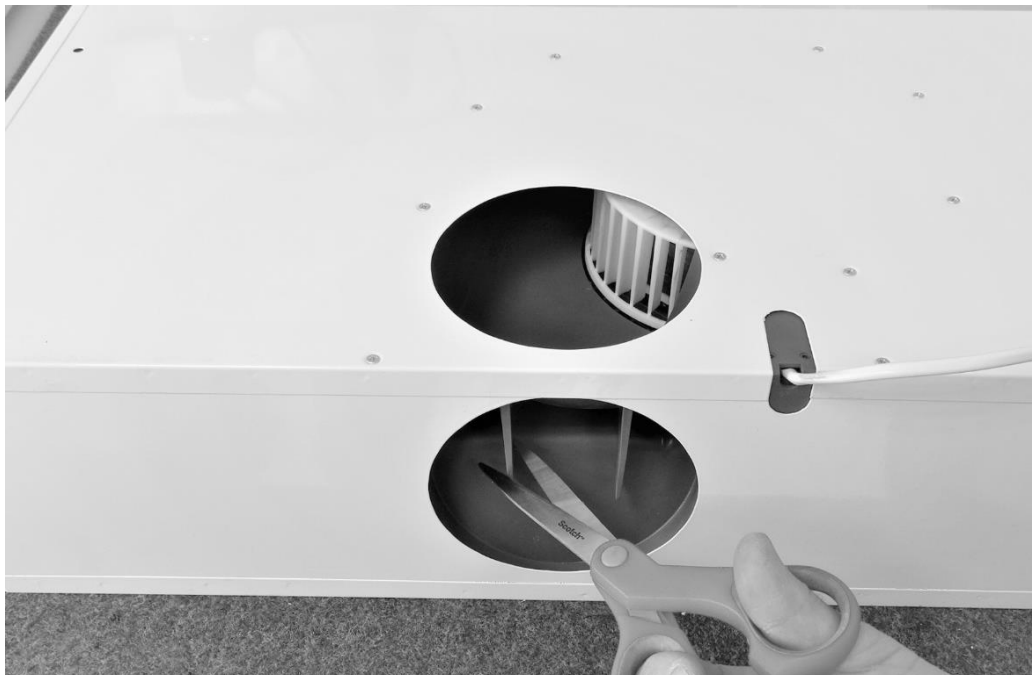

Fig. 6
2) Outlet at the back - in the rear opening of the hood there are two wings, which should be cut from the bottom (Fig. 6). In order to facilitate removing of the air curtain, cut the curtain with a knife across the center (Fig. 7) and remove it through the upper hole (Fig. 8)